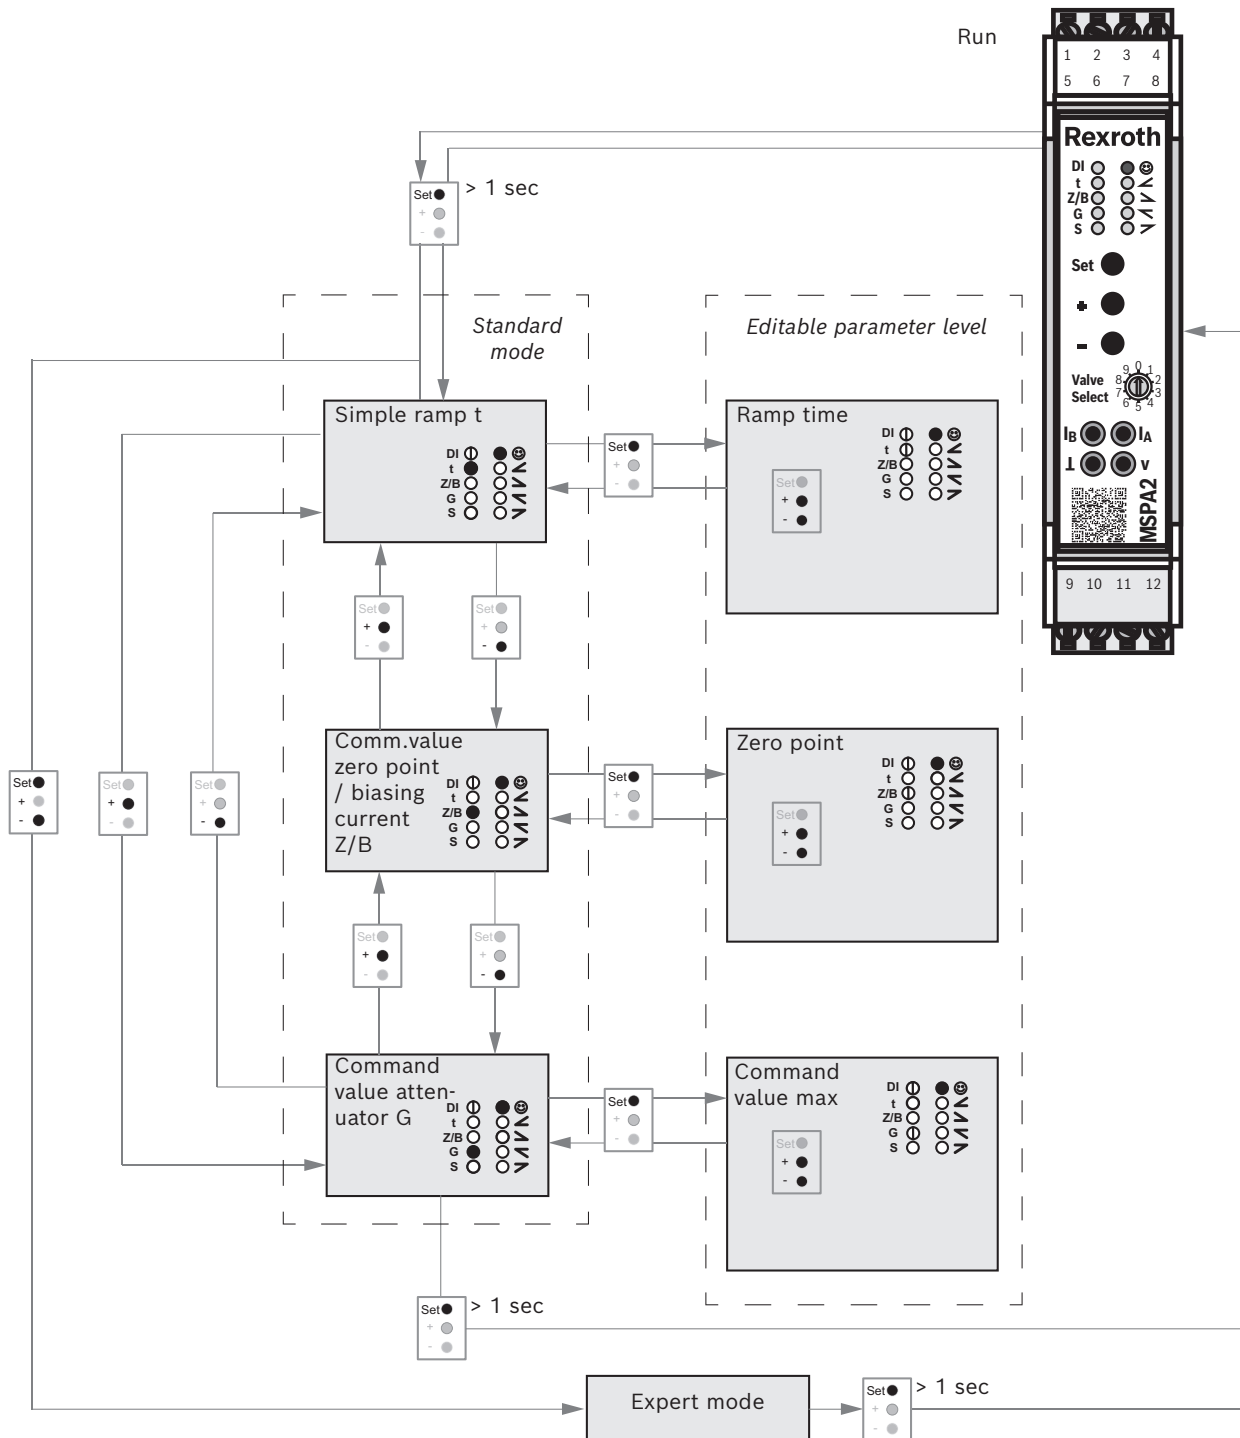

Fig. 5: Menu structure
- Press **[Set]** > 1 s in order to switch to the first settable parameter (simple ramp, see Fig. 5).